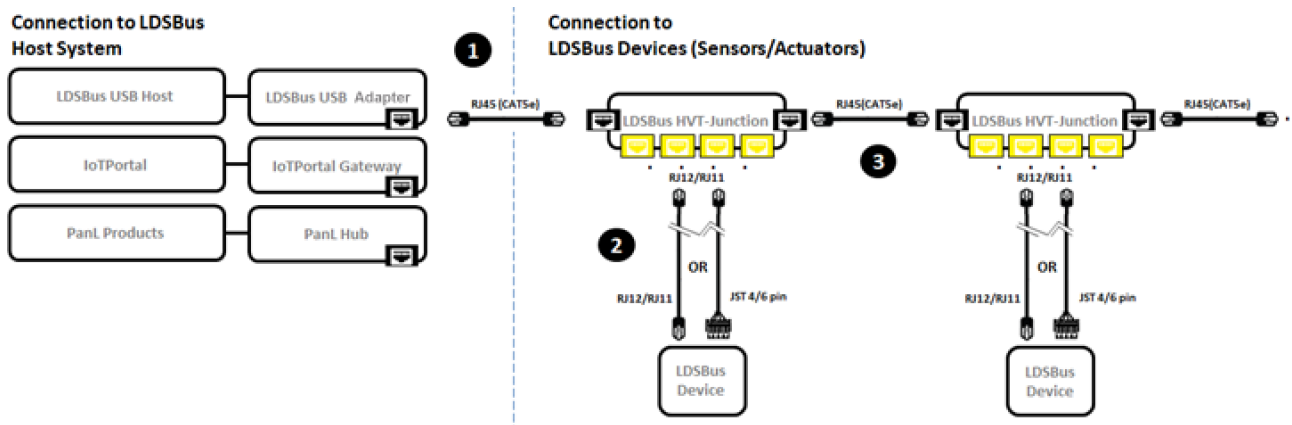

Figure 2 - LDSBus Thermocouple Sensor Adapter - Connection Diagram
Figure 2 illustrates the connection of the LDSBus Thermocouple Sensor Adapter (LDSBus Device) to the LDS Bus. Please visit <https://brtsys.com/resources> to view the full device application, setup and installation guides.
2. Connect the configured LDSBus Thermocouple Sensor Adapter to the LDSBus HVT-Junction as shown in Figure 2.
3. If there is more than one LDSBus HVT-Junction, chain them together as shown in Figure 2.